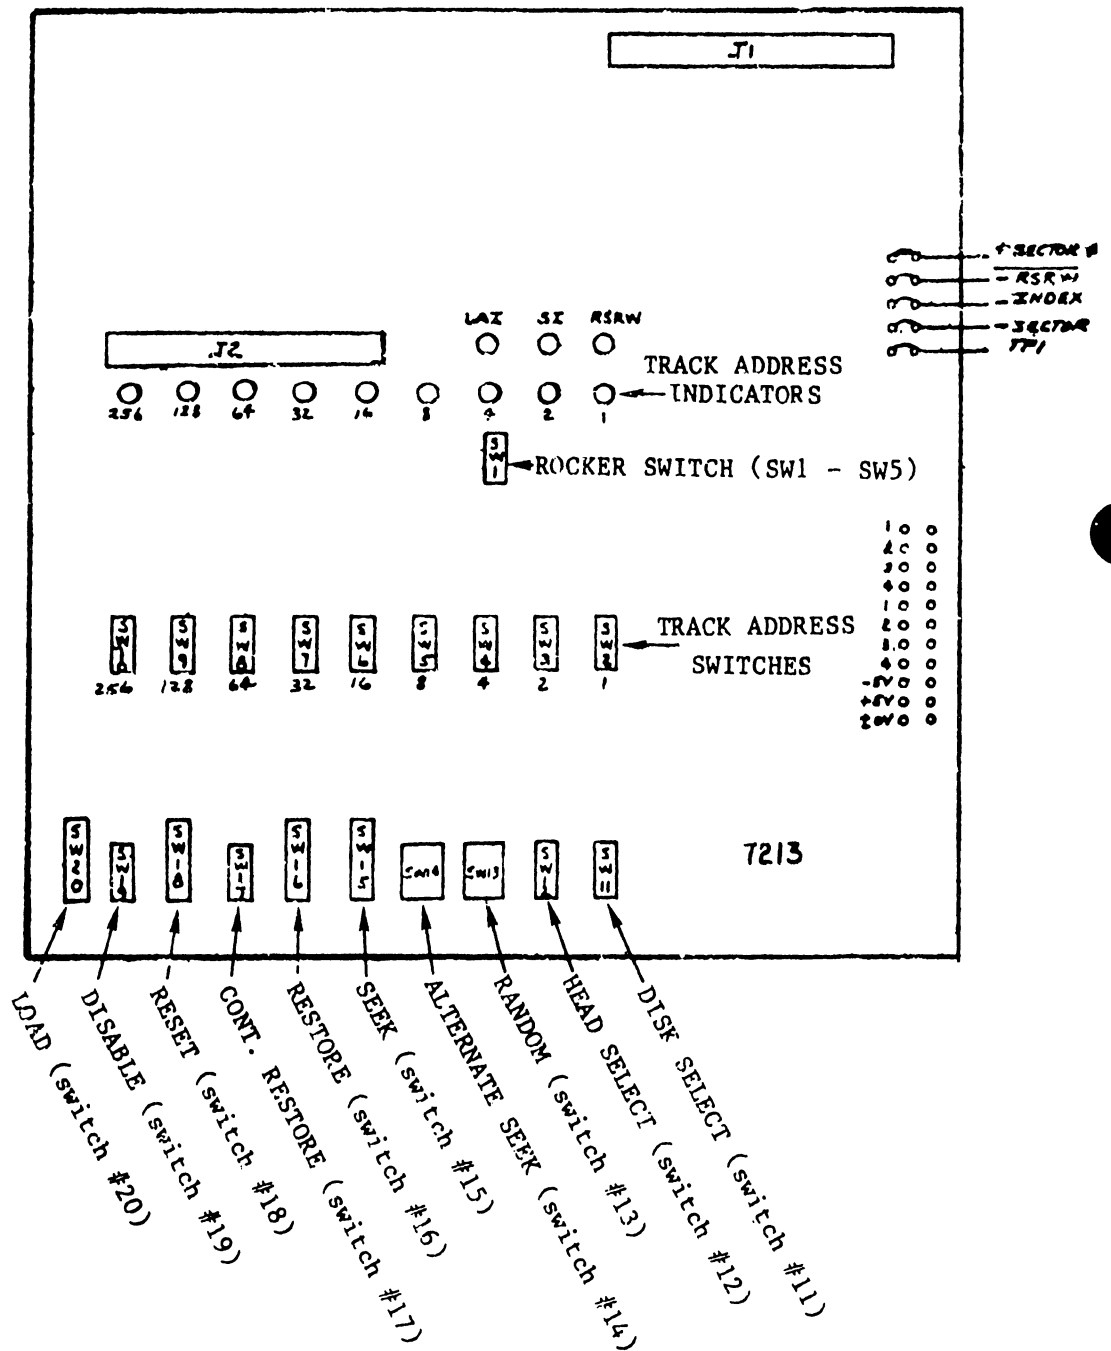

FIGURE 3-1 7213 DISK EXERCISER BOARD (Older Revision)
- 1) TK1 through TK256 (switch #'s 2 through 10 in Figure 3-1) - These are the track address switches. A track address is selected by setting the appropriate track address switches to ON. When the SEEK button is then pressed, the heads will move to the selected track. If the LOAD button is pressed, the selected track address will be loaded into the multiplexer of the exerciser board.
- 2) DS - DISK UPPER/LOWER (switch #11 in Figure 3-1) - When ON, the upper (removable) disk is selected; when OFF, the lower (fixed) disk is selected.
- 3) HS - HEAD UPPER/LOWER (switch #12 in Figure 3-1) - When ON, the upper (removable) disk is selected; when OFF, the lower head is selected.
- 4) RND - RANDOM TRACK GENERATOR (switch #13 in Figure 3-1) - When ON, a random track pattern is generated; when OFF, the random track generator is off.
- 5) ALTERNATE SEEK (switch #14 in Figure 3-1) - When ON, the head positioner will continuously seek between two addresses: the address set on switches TK1 through TK256, and the address previously loaded into the multiplexer of the exerciser board (by a LOAD operation).
- 6) SEEK (switch #15 in Figure 3-1) - Pressing this momentary contact switch will move the heads to the address set on switches TK1 through TK256.
- 7) RST - RESTORE (switch #16 in Figure 3-1) - Pressing this momentary contact switch will position the heads at track zero.
- 8) CONT. RST. (switch #17 in Figure 3-1) - When ON, the head are repeatedly positioned to track zero.
- 9) RESET (switches #18 in Figure 3-1) - This momentary contact switch resets the exerciser.
- 10) DISP - DISABLE (switch #19 in Figure 3-1) - When ON, the track address is disabled. The head will remain positioned wherever it is when the DISP switch is turned on.
- 11) LOAD (switch #20 in Figure 3-1) - This momentary contact switch loads the track address (selected by switches TK1 through TK256) into the multiplexer of the exerciser.
- 12) UNIT SELECT (switch #1 in Figure 3-1) - This 5-bank rocker switch has the following functions:
2. Press the RST button (switch #16 in Figure 3-1) to restore the head positioner to track zero.
4. Press the SEEK switch (switch #15 in Figure 3-1).
2. Press the RST button (switch #16 on in Figure 3-1) to restore the head positioner to track zero.
4. Press the LOAD switch (switch #11 in Figure 3-1) to load this seek address into the multiplexer.
6. Turn the Alternate Seek switch ON (switch #14 in Figure 3-1).
3. Turn the RND switch ON (switch #13 in Figure 3-1) to select the Random Mode.